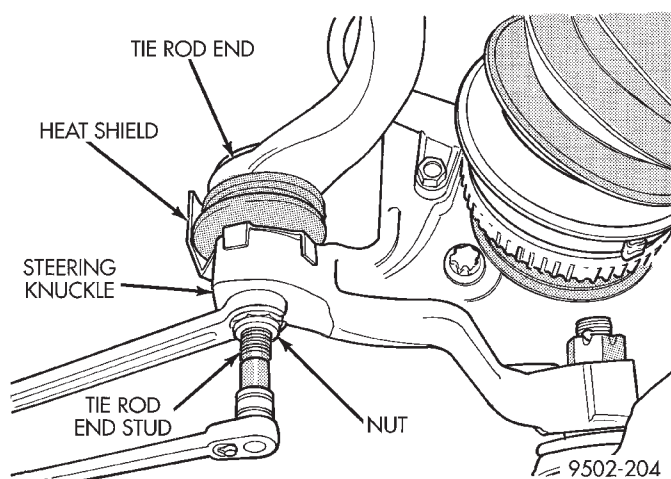

Fig. 7 Removing Tie Rod End Nut
(4) Raise vehicle on jack stands or centered on a frame contact type hoist. See Hoisting in the Lubrication and Maintenance section of this manual, for the required lifting procedure to be used for this vehicle.
(5) Remove both front wheel and tire assemblies from the vehicle.
(6) Remove nuts attaching both outer tie rod ends to the steering knuckles (Fig. 7). **Nuts are to be removed from tie rod ends using the following procedure, hold tie rod end stud with an 11/32 socket, while loosening and removing nut with wrench (Fig. 7).**